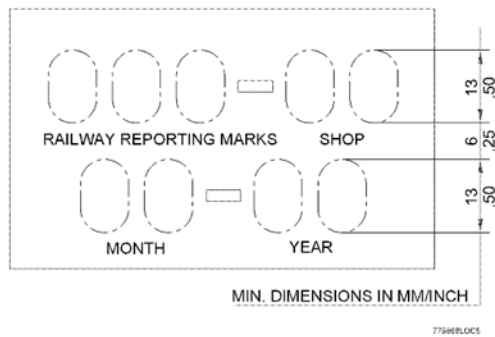

Figure 10-1 Examples of Valve Portion Stenciling with Required Information
3. A suitable surface of the Service portion must be stenciled with letters at least 1/2" high in accordance with Figure 10-1.